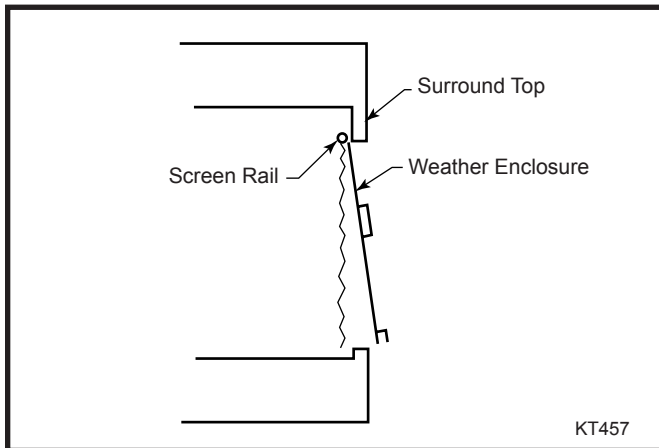

Fig. 19 Place top of weather enclosure between surround top and screen rail.
3. Slide the top of the weather enclosure up between the back of the surround top and the screen rail. (Fig. 19)